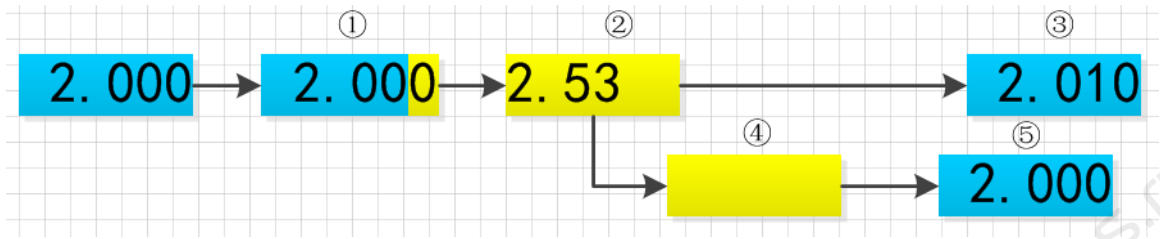

Figure 1.4.2
- As shown in figure 1.4.2, ①press **【Enter】** to enter the edit mode. ②Press the numeric key to enter the value. ③Press **【Enter】** to confirm and exit the edit mode. Parameter setting is then completed.